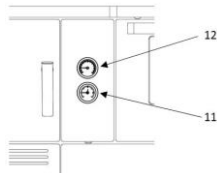

Figure 6 (pos. 11 – manometer, pos.12 – thermometer)
6.4 MANOMETER AND THERMOMETER (Fig.1 pos.11 and 12 and Fig.6)
Thermometer and pressure gauge are installed on the cooker, on the rosette cover (Fig. 1, pos. 16) between the firebox door and the oven door (Fig. 1, pos. 12 and 11, and Fig. 6) and therefore it is not necessary to install them.